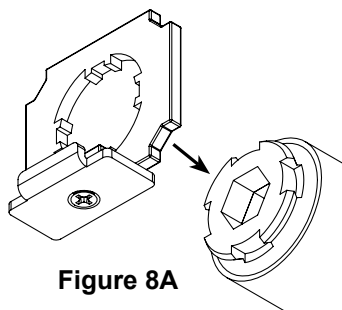
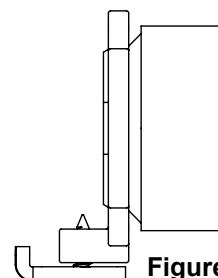

Figure 8A
Figure 8B
Step 5. The Cord Lift Motor is held in place on the Track by Motor Clamps. Snap a Motor Clamp to each end of the Motor as shown in **Figure 8A**. Make sure the clamp snaps fully onto the motor, as shown in **Figure 8B**.